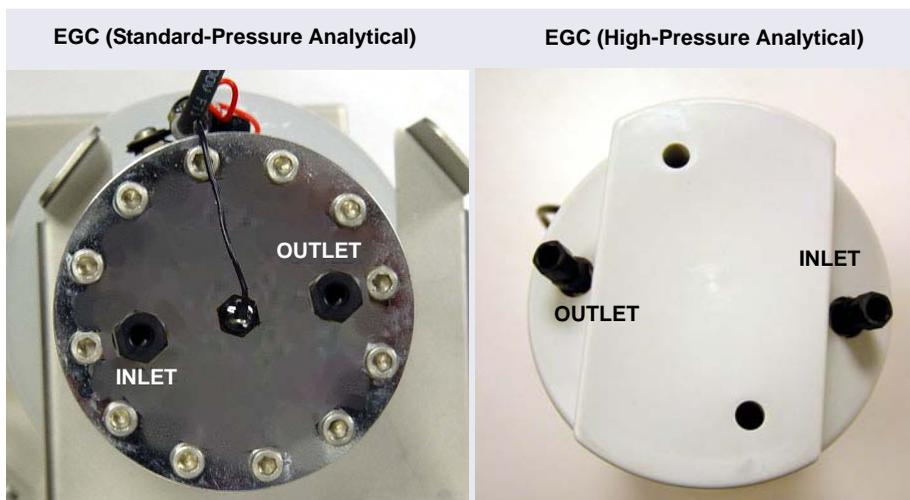

Figure 4-25. Dionex EGC Inlet and Outlet Fittings with Plugs
- Remove the plugs from the INLET and OUTLET fittings (see Figure 4-25).